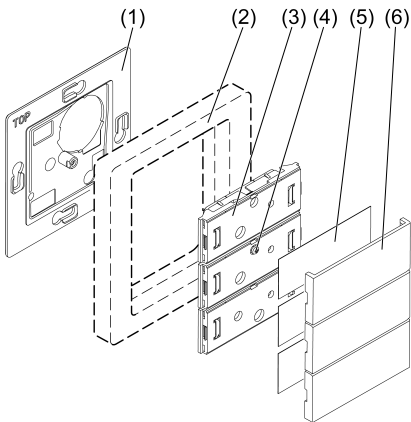

Figure 1
- Using a screwdriver, carefully remove covers (6) and labelling fields (5) from wall transmitter (Figure 1).
- Slacken fastening screw (4).
- Remove wall transmitter (3) from the base plate (1).